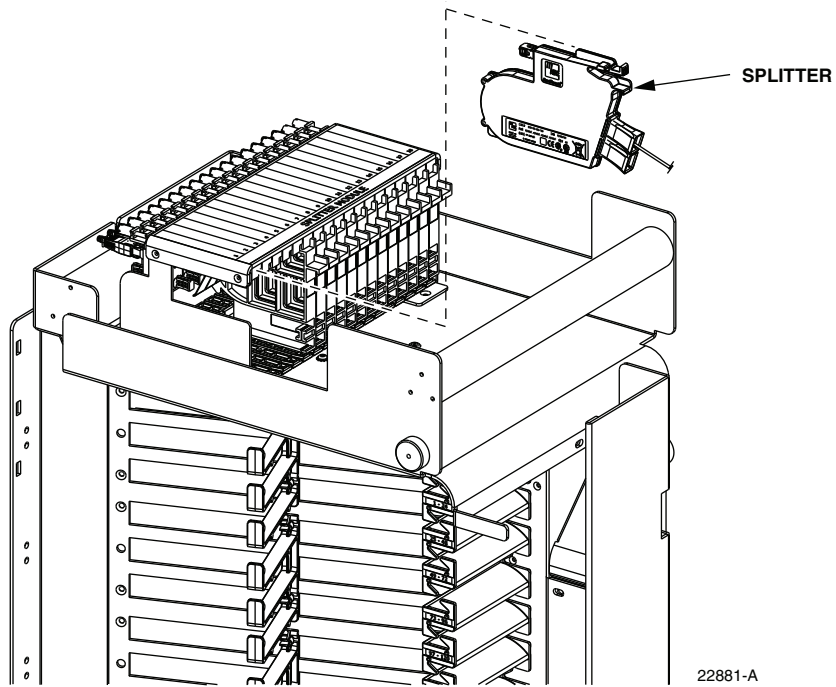

Figure 64. Splitter Installation
8. Insert the splitter into the mounting slot as shown in Figure 64.